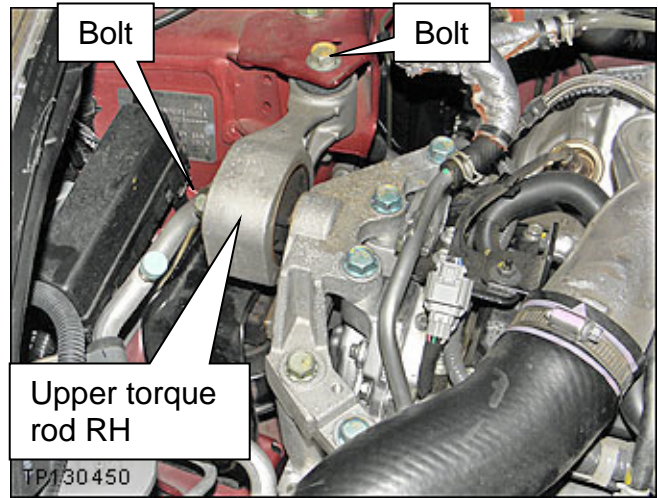

Figure 18
- a. Remove 2 bolts shown in Figure 18.